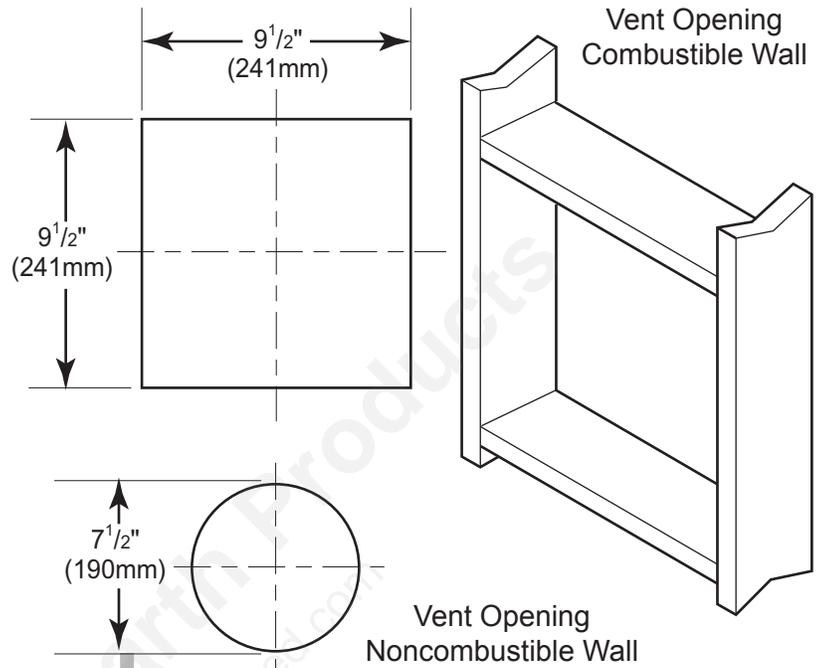

Figure 11 - Vent Opening Requirements
3. Attach vent pipe assembly to the stove. Set stove in front of its permanent location to insure minimum clearances. Mark the wall for a 9 1/2" (241) square hole (for noncombustible material such as masonry block or concrete, a 7 1/2" [190mm] diameter hole is acceptable). See Figure 11. The center of the hole should line up with the center line of the horizontal rigid vent pipe. Cut a 9 1/2" x 9 1/2" (241mm X 241mm) square hole through combustible exterior wall (7 1/2" [190mm] diameter hole if noncombustible). Frame as necessary. See Figure 11.
3. Cut a hole in the roof using the locating hole as a center point. (Cover any exposed open vent pipes before cutting hole in roof). The 9 $\frac{1}{2}$ "x9 $\frac{1}{2}$ " (241mm x 241mm) hole must be measured on the horizontal. Actual length may be larger depending on the pitch of the roof. There must be a 1" minimum clearance from the vent pipe to combustible materials. Frame the opening as shown in *Figure 11* on page 14.